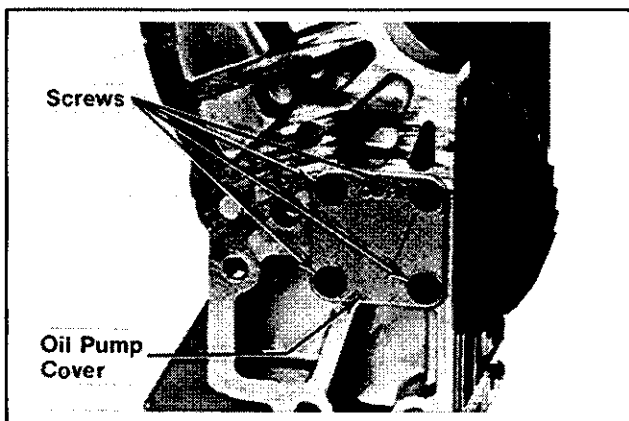

Figure 9-44. Removing Oil Pump Cover.
- Remove the self-tapping screws, cover, and pump rotors. Refer to Figures 9-44 and 9-45.